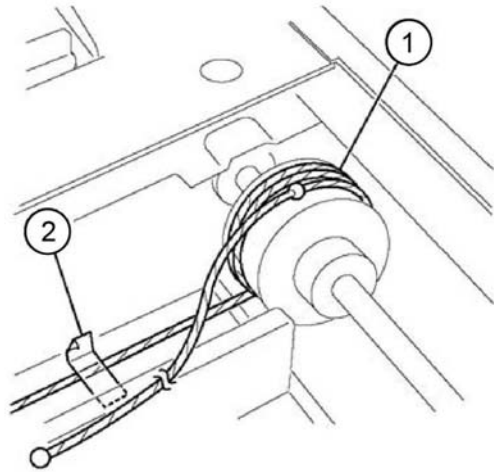

Figure 7 Capstan winding (1)
2. Wind the extension spring loop end of the carriage cable around the capstan, **Figure 7**:
- a. Wind the cable (1) 2.5 turns.
- b. Use adhesive tape (2) to affix the extension spring loop end of the cable to the frame.